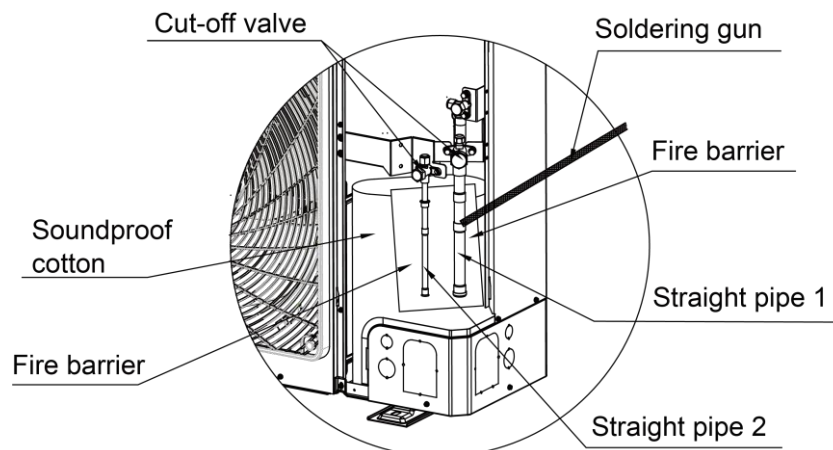

Fig. 15
(1) Pipe connection for AEG08MSIH3 :As shown in Fig.15 and